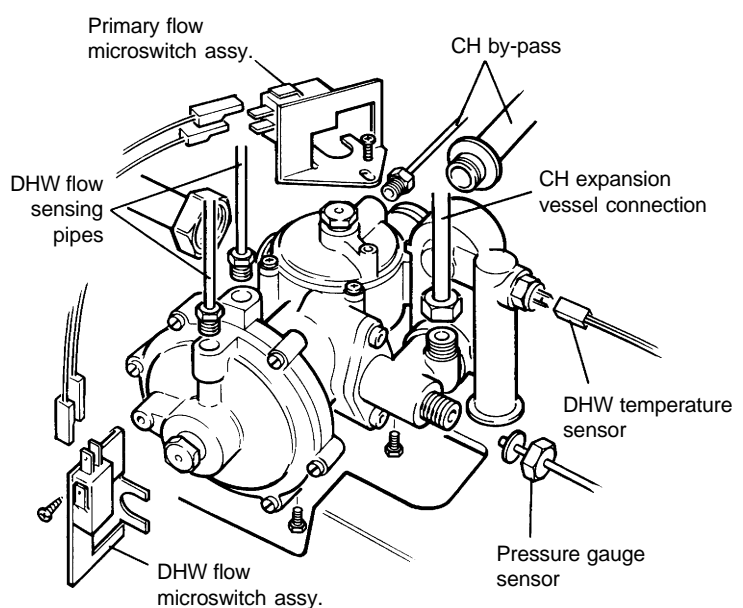

Fig. 38
8.38 DIVERTER VALVE ASSEMBLY - Fig. 38